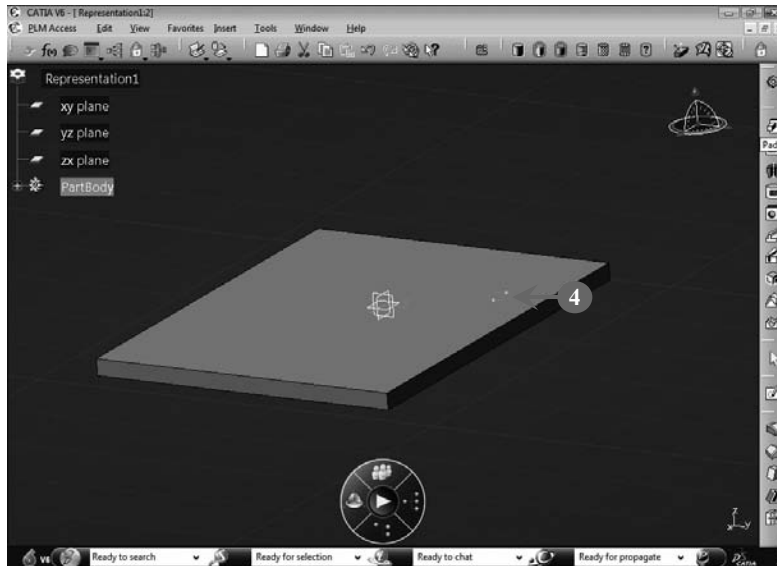

FIGURE 3.115
4. Open the sketch in the Part Design workbench, as shown in **Figure 3.115**: